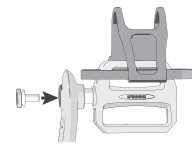

Figure 12
2. Insert a pedal into its corresponding crank arm (Figure 12).
4. Secure the pedal using one bolt ⑤ (Figure 12) and torque to 33 ft-lb (45 N-m) with the hex key ⑥.